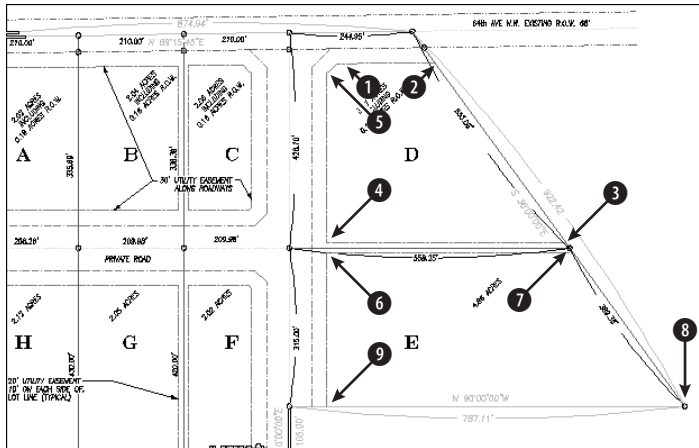

Figure 12-9: The AREA command can calculate the area of parcels D and E.
2. Use ZOOM Window to zoom in on the parcels of land labeled D and E, as shown in Figure 12-9. OSNAP should be on with a running object snap for endpoint.
4. At the Specify first corner point or [Object/Add/Subtract]: prompt, right-click and choose Add to start Add mode. At the Specify first corner point or [Object/Subtract]: prompt, pick ❶ in Figure 12-9 by using the Endpoint running object snap. At the Specify next corner point or press ENTER for total (ADD mode): prompt, continue to pick ❷, ❸, ❹, and ❺. Press Enter. AutoCAD lists the area and perimeter. (Your figures may be different if you picked different points.)
5. At the Specify first corner point or [Object/Subtract]: prompt, pick ❻ in Figure 12-9. At the Specify next corner point or press ENTER